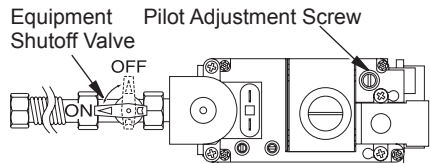

Figure 42 - Turning Equipment Shutoff Valve to the OFF Position
5. Turn equipment shutoff valve clockwise  to the OFF position (see Figure 42). Do not force.
6. Wait five (5) minutes to clear out any gas. Then smell for gas, including near the floor. If you smell gas, STOP! Follow "B" in the safety information above. If you don't smell gas, go to the next step.
- Turn the adjustment screw marked PILOT clockwise to decrease or counterclockwise to increase the flame to proper size (see Figure 42, page 28). Do not remove the adjustment screw.